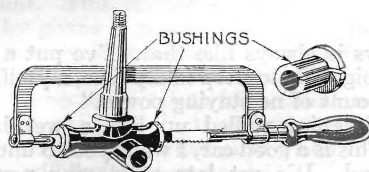

Fig. 4 (above). Hack-saw through side wall of your spindle body bushings and they can be driven out easily
**D**RIVING out spindle body bushings is not so easy unless you have a special tool designed for this particular job. However, sawing through the sides of the bushings will greatly facilitate the work. Uncouple the blade from the hack saw frame and pass the blade through the king-pin hole and then fit it to the frame as shown in Fig. 4.